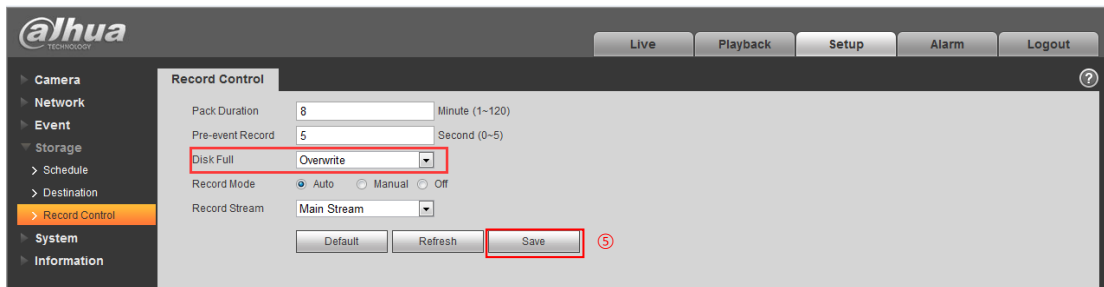

Figure 11-1
1) Enter 'Setup-Storage-Record Control' as Figure 11-1, Choose 'Disk Full' as 'OverWrite'